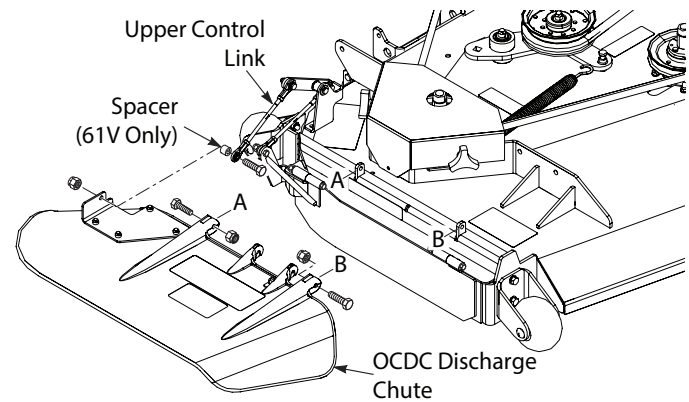

Figure 3-18. OCDC Discharge Chute Installation
9. Install the OCDC discharge chute to the cutter deck. Secure using two (2) 5/16-18 x 1-3/4" bolt and two (2) 5/16-18 elastic stop nuts. See Figure 3-18.
11. Secure the upper control link to the OCDC discharge chute using one (1) 5/16-18 x 1-1/2" bolt and one (1) 5/16-18 elastic stop nut. See Figure 3-18.